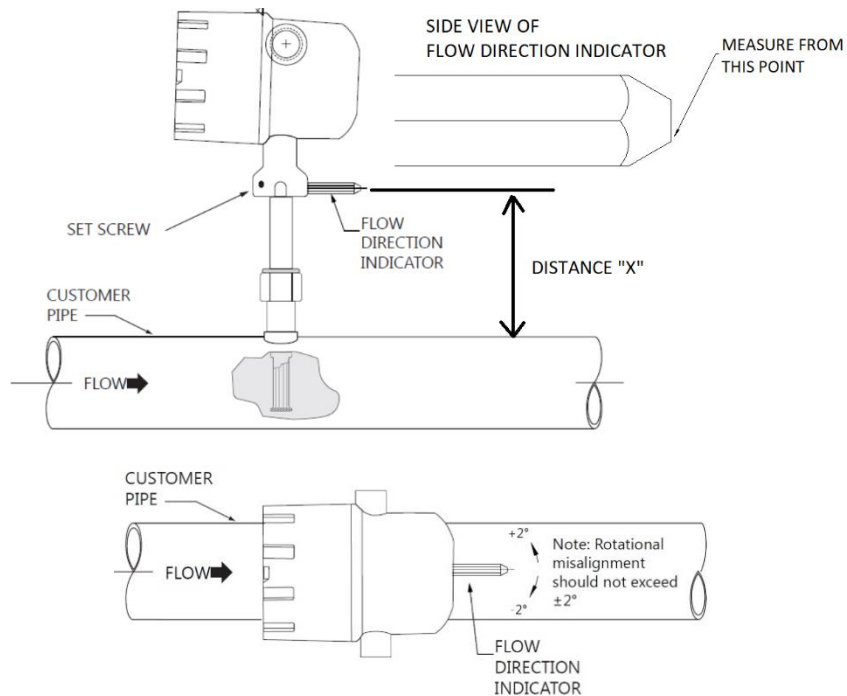

Figure 6: Meter Inserted into Pipe
- For insertion type meters - insert the meter sensing tube into the tube fitting. Using Table 1 and Figure 6, center the meter's sensing element in the pipe by setting distance "X" (distance from the outer diameter of the pipe to the bottom of the pointer edge). This can be done carefully with a tape measure. Ensure that the pointer on the flow meter is pointing in the direction of flow.
Note: Once the “nut” end of the tube fitting is tightened, the stainless steel ferrules will swage or bite into the meter’s probe. This swaging is permanent - ferrules are extremely difficult to remove from probe after swaging. Make absolutely sure that distance “X” shown in Figure 6 above is set correctly before the tube nut is tightened.
12. Install the flow meter per Figure 6, ensuring that the flow direction indicator is pointing in the direction of flow +/- 2 degrees. The insertion depth for the meter probe is pre-set for the inline meters. Tighten the tube nut hand tight, and then use the 1-1/8" open end wrench to tighten the tube nut approximately 1/3 to 1/2 a turn (120 to 180 degrees) beyond hand tight. The flow meter is now installed into the spool piece
13. It may be necessary to rotate the housing of the flow meter relative to the flow direction indicator. To do this loosen both of the 2.5mm set screws and unscrew (remove) the flow direction indicator. These pieces are detailed in Figure 6. Rotate the housing +/- 90 degrees or 180 degrees. Do not spin the housing around completely (360 degrees repeatedly) due to wires connecting the probe to the housing. Re-install the flow indicator and then tighten set screws.